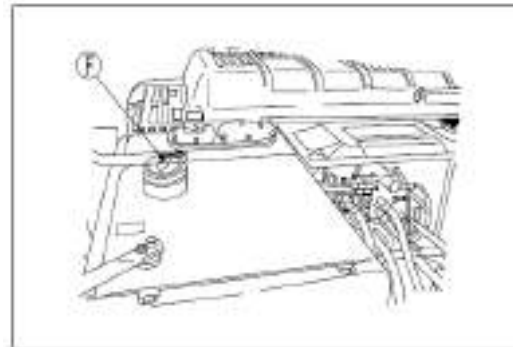

Figure 4-7 Oiling port of the fuel tank
a). Open the cap of the fuel injection port on the fuel tank (F) (as shown in Figure 4-7).